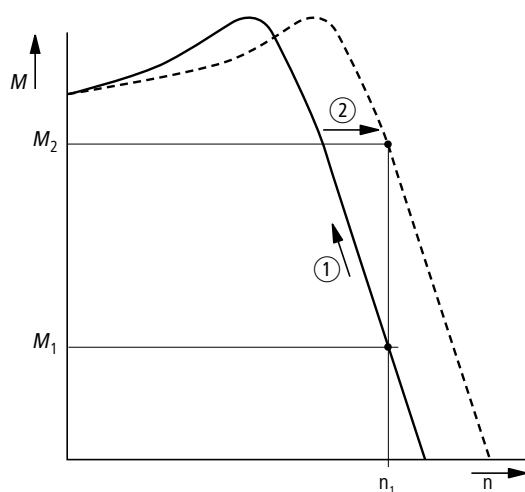

Figure 78: Speed behavior with slip compensation
The simple illustration shows that, as the load torque increases (①), the resulting speed reduction is compensated by an increase in the output frequency (②) (→ Figure 78).